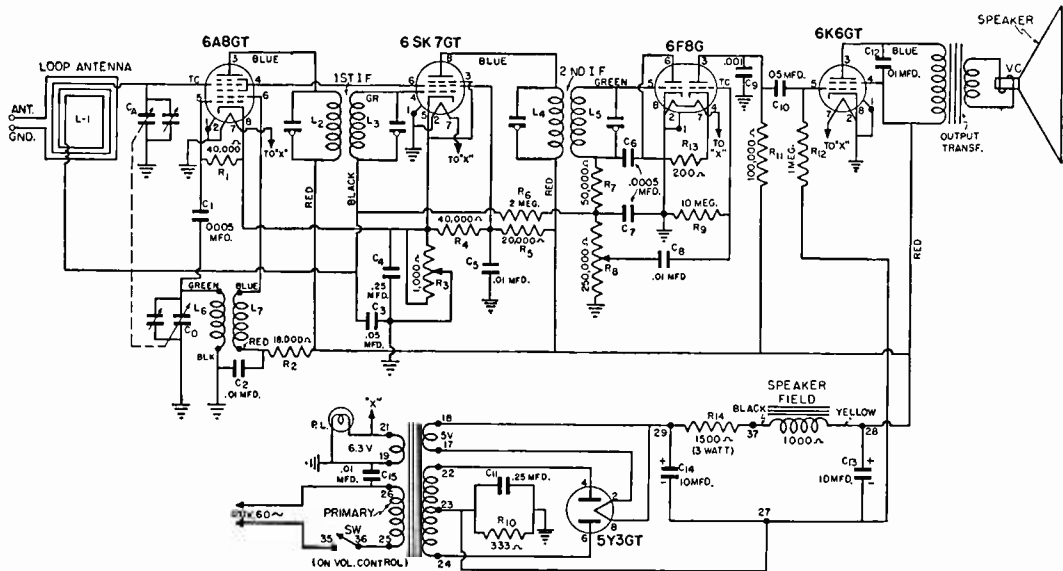

Fig. 1. Typical schematic diagram.
Generally speaking, though, you can almost always determine the defective section, and many times the defective stage. This means that you won't have to go through the tedious procedure of measuring all the voltages and resistances in the receiver circuit. You can concentrate on the section or stage containing the defect. It is this phase of servicing that I would like to touch on in this article; the measurement of voltage and resistance in the set after the trouble has been localized. A typical receiver diagram which you can refer to while reading this material is shown in Fig. 1.
not the same as the one the manufacturer specifies. In most tube circuits the meter resistance won't make an appreciable difference in the readings. It is only noticeable where you encounter amplifiers having a high plate resistance and low plate current. The right hand section of the 6F8 tube in Figure 1 is a good example of this. The voltage amplifier used ahead of the power amplifier in most receivers will usually be of this type.
The DC voltage developed across the grid bias resistor is the result of current flow away from the grid toward ground. Therefore the grid end of the resistor will be negative with respect to the other end. The polarity of the voltmeter leads should correspond to this when you attempt to measure the bias voltage. R1 is the oscillator grid resistor in figure 1.
The filament voltage is generally AC, and should be measured between the two filament terminals on each tube socket, not between the filament terminals and the chassis. Of course, in a receiver where the filaments are all connected in parallel and one side of the filament string is grounded, you can measure from the hot filament terminal to the chassis. An example of this type of filament hook-up is shown in the receiver in figure 1. Many receivers are not connected up in the manner described above, however, so it is best to identify the two filament terminals of the tube by referring to a tube chart so that you can measure the voltage directly at the terminals of the tube socket.
The a.v.c. circuit in the receiver shown in Fig. 1 consists of R8, R6, L3, C3, and L1. The voltage is developed across R8 and is fed to the control grids of the 6A8 and 6SK7 tubes. The a.v.c. voltage can be measured between almost any point along this circuit and the chassis.
The audio output voltage is usually measured between the plate of the output tube (the 6K6 in the case of Fig. 1) and the chassis. However since there is DC voltage at the plate terminal as well as *audio* (AC) voltage, you must use the proper multitester jacks so as to provide some means of blocking the DC from the meter. Most commercial testers have jacks marked "out" or "output." These are the ones you should use because they are so arranged that when you use them a condenser is connected in series with one of the test leads. A condenser will block DC and pass AC, so the DC plate voltage of the output tube will not register on the meter. If such jacks are not provided on the test instrument you can connect a condenser in series with one of the leads externally. As with the a.v.c. voltage, the audio output voltage increases as the signal reaching the detector increases.